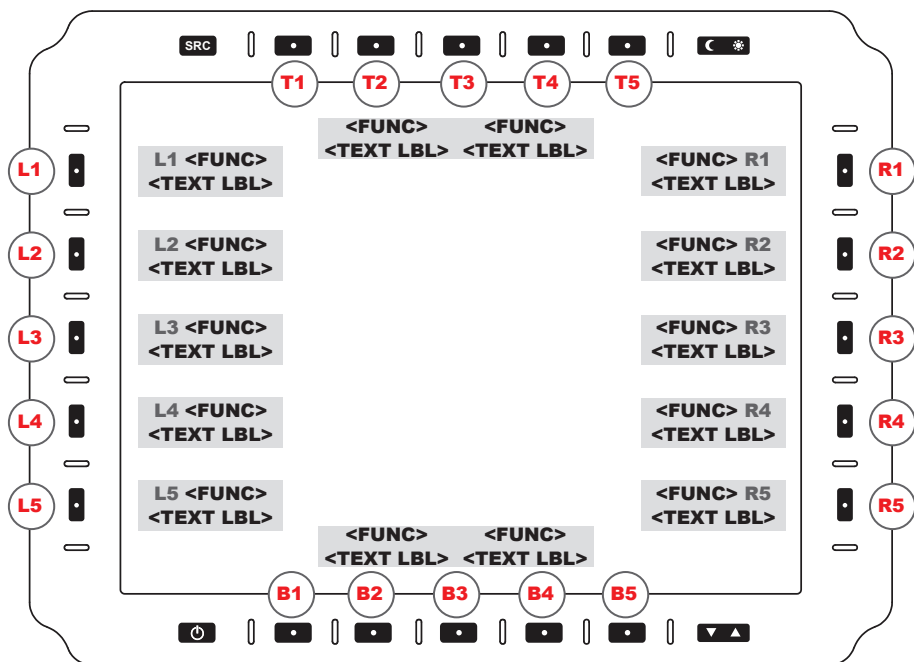

FIGURE 18
PROGRAM BTN (L2). Initiates Programmable Button Setup (Figure 18).
There are twenty (20) soft keys with illuminated center dots on the front bezel, in a layout of five buttons on the left (L1-5), right (R1-5), along the bottom (B1-5) and top, (T1-5) (Figure 18). These buttons are used to select on-screen menu options. User will press the button corresponding to the on-screen menu feature preferred.
BACK (R5). Returns to SELECT BUTTON MENU, (Figure 18).